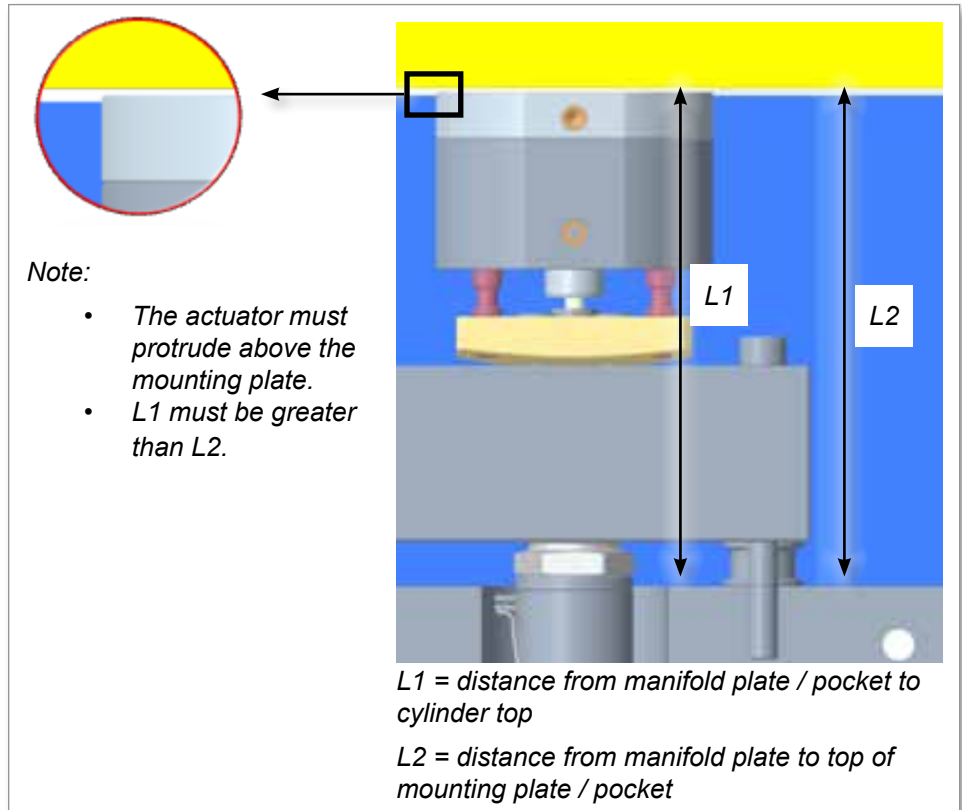

Figure 5-7 Check tooling pocket
8. Confirm that the tooling pocket height and the actuator height meet design requirements as shown on the General Assembly drawing. See Figure 5-7.
The actuator **must** protrude above the top of the mounting plate. See Figure 5-7.